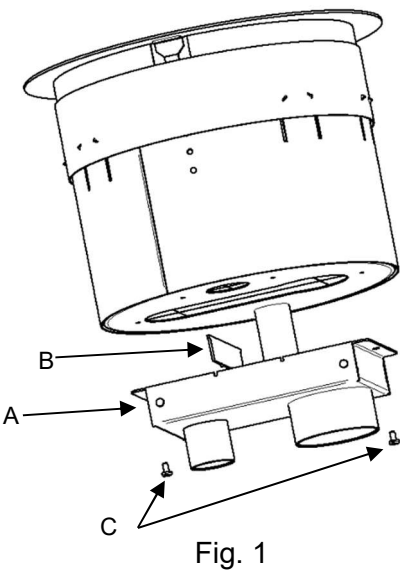

Fig. 1
4. Bottom box (A) is shipped with the fitting. Insert the divider (B) to the bottom box (A) (see Fig. 1) and attach bottom box to can with provided screws (C). Torque screws (C) to 6-10 in-lbs (0,7-1,1 Nm).